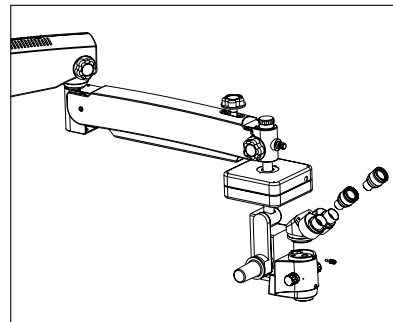

Fig. 13
7.19 Assemble fibre optic cable into the hole provided at the backside of magnichanger assembly by gently pushing it in, as shown in fig 13. A click sound will confirm correct position.